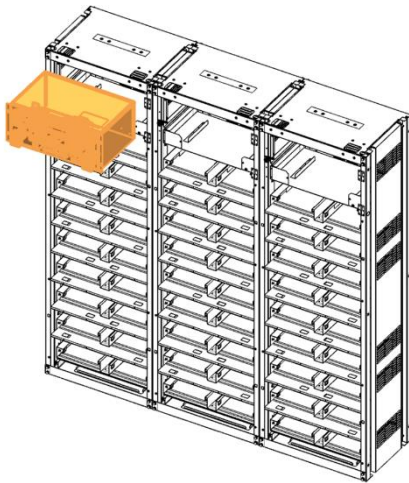

Figure 3-19: Inserting SMU
1. Insert the SMU through the front of the rack as shown in Figure 3-19: Inserting SMU